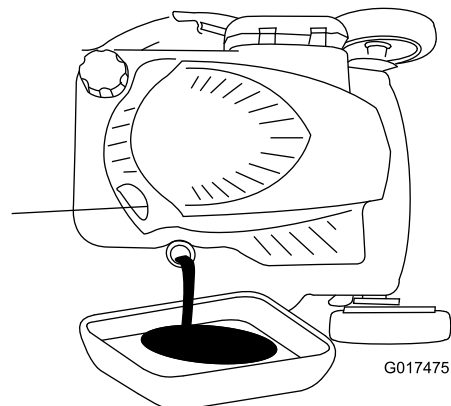

Figure 35
4. Tip the machine onto its side (so that the air filter is up) to drain the used oil from the oil-fill tube (Figure 35).